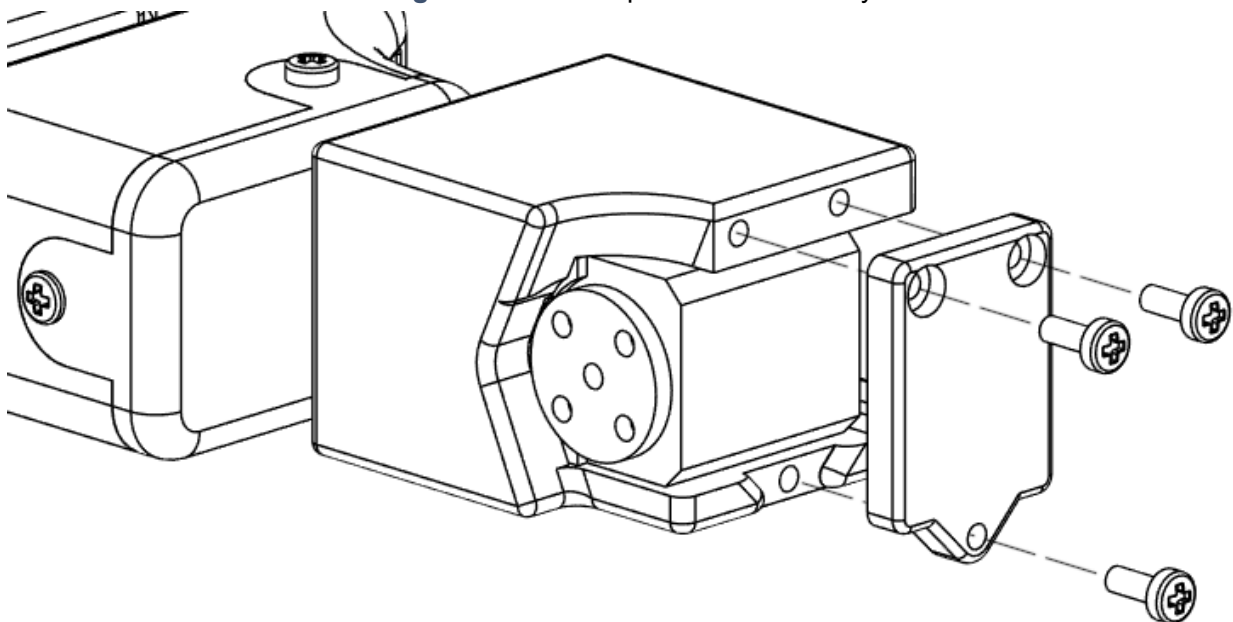
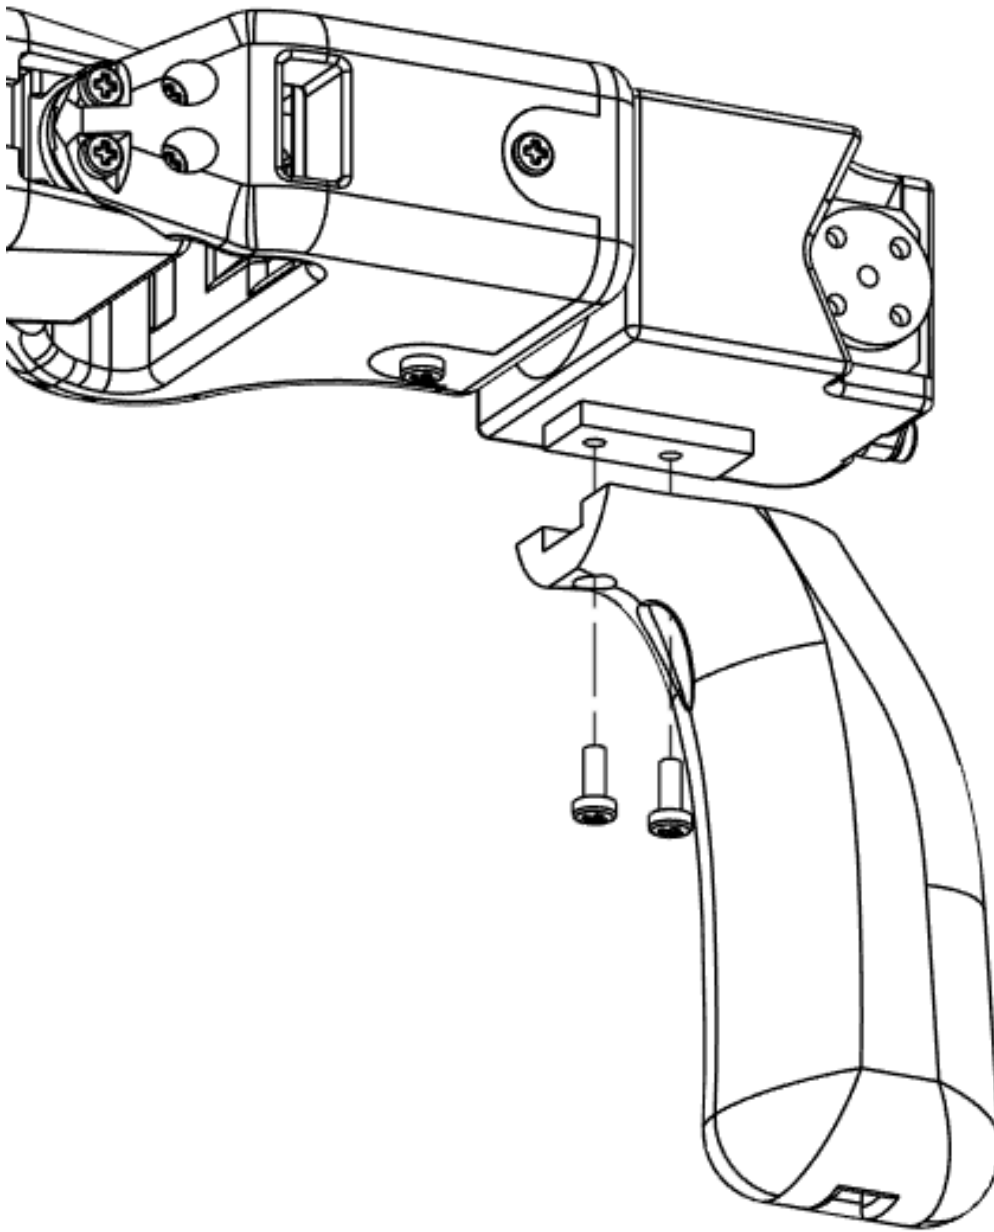
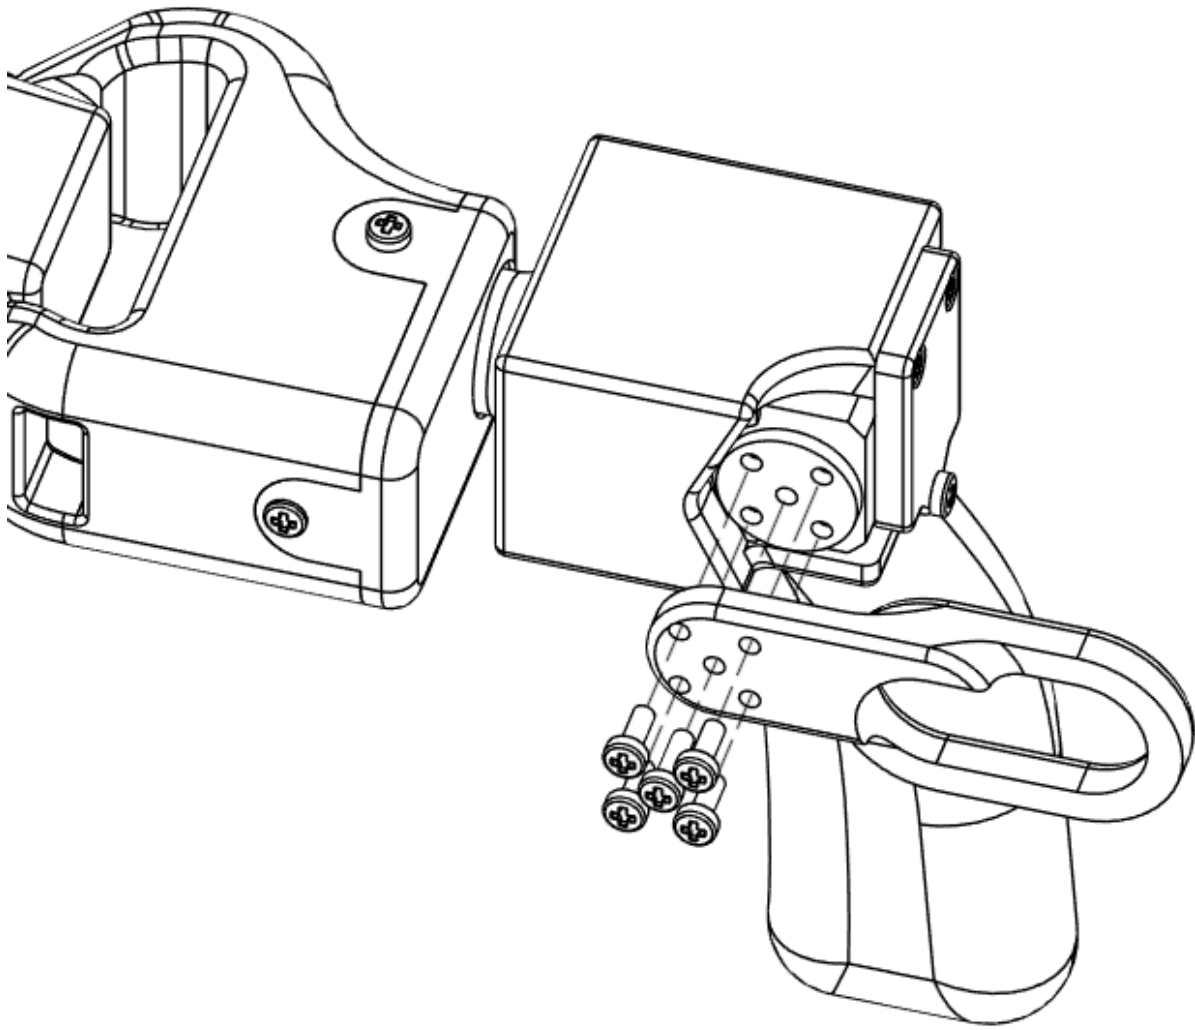
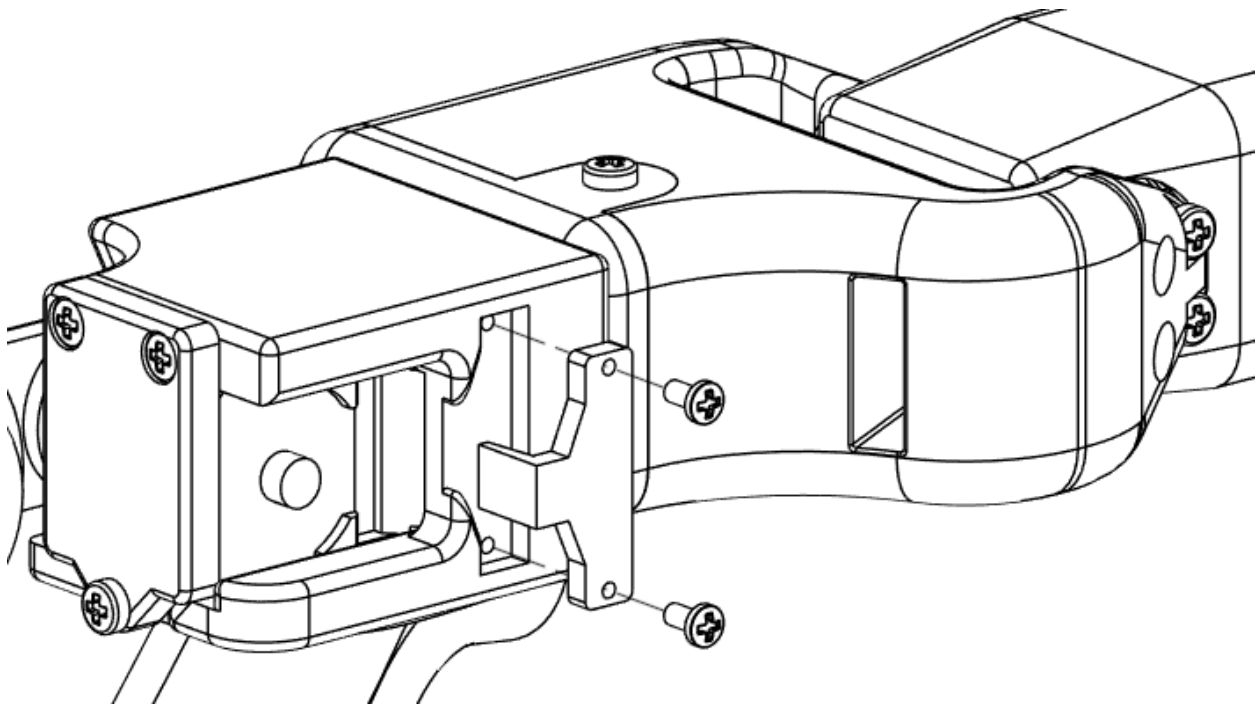

Figure 3.14 - Teleop Motor 6 Support Assembly
Figure 3.15 - Teleop Handle Assembly
Figure 3.16 - Teleop Trigger Assembly
Figure 3.17 - Teleop Motor 6 Wire Clip Assembly
16. Fasten Teleop Motor 6 Support to Teleop Motor 6 Casing as shown in Figure 3.14
- a. (3) M3x8mm
17. Fasten Teleop Handle to Teleop Motor 6 Casing as shown in Figure 3.15
- a. (2) M3x8mm
18. Fasten Teleop Trigger to Teleop Motor 6 as shown in Figure 3.16
- a. (4) M3x8mm
- b. (1) M3x10mm
20. Fasten Teleop Motor 6 Wire Clip to Teleop Motor 6 Casing as shown in Figure 3.17
- a. (2) M2x5mm
- b. **NOTE:** Arm Motor Wires not shown in Figure 3.17